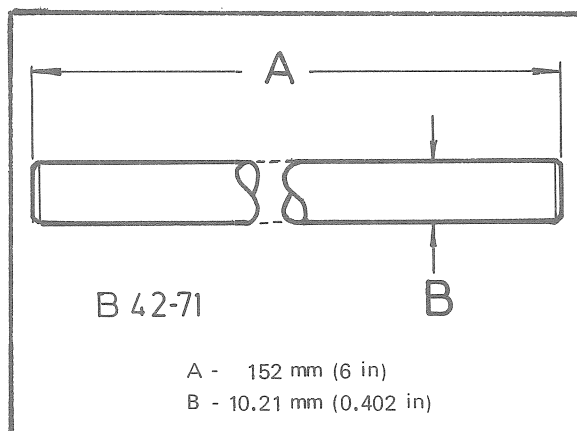

Fig. 34
- (e) Install two dowels, manufactured to the dimensions in Fig. 34, through two diametrically opposed bolt holes in the splined spider and clutch carrier then carefully press in the shaft. Remove the assembly from the press then carefully check for run-out between the shaft and clutch carrier. Tap the clutch carrier as necessary to eliminate any run-out.